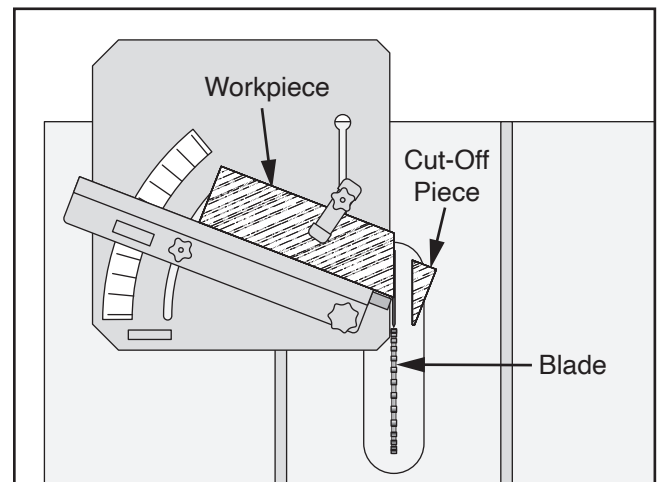

Figure 23. Completed cut.
10. Maintaining firm downward pressure on sled against table, feed workpiece all the way through blade, keeping hands and fingers away from blade (see **Figure 23**).